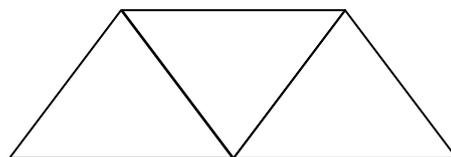

Fig.1
- 9 a) Explain FEM? (2)
b) List the various steps in FEM. (3)
c) What is discretisation? Sketch two types elements each for one-dimensional and two-dimensional domains. (5)
- 10 a) Derive the shape function for one-dimensional linear element, plot its variation along the element. (4)
b) The nodal values of displacements for a one-dimensional element are 3 mm and 7 mm respectively. Determine the displacements at $1/3^{\text{rd}}$ lengths of the element considering it as linear element. (2)
c) In the above problem, if the displacement at midpoint of the element is given as 5 mm, determine the displacement at $2/3^{\text{rd}}$ length of the element considering it as quadratic element. (4)
- 11 a) Write the standard form of the discretised equation in FEM formulation, naming each term it. (3)
b) Write the integral equation for element stiffness matrix with conventional notations. (2)
c) Determine the stiffness matrix for a one-dimensional linear element of length 10 cm and cross-sectional area 1 square centimetre. Take $E=2 \times 10^5 \text{ N/mm}^2$ (5)
- 12 a) Elaborate about node connectivity matrix, what is its use? (4)
b) Sketch a simple truss with seven members and five joints is given in Fig.1. Divide and number each element and node of the truss, considering each member as one-dimensional linear element. Also prepare the node connectivity matrix for this. (6)